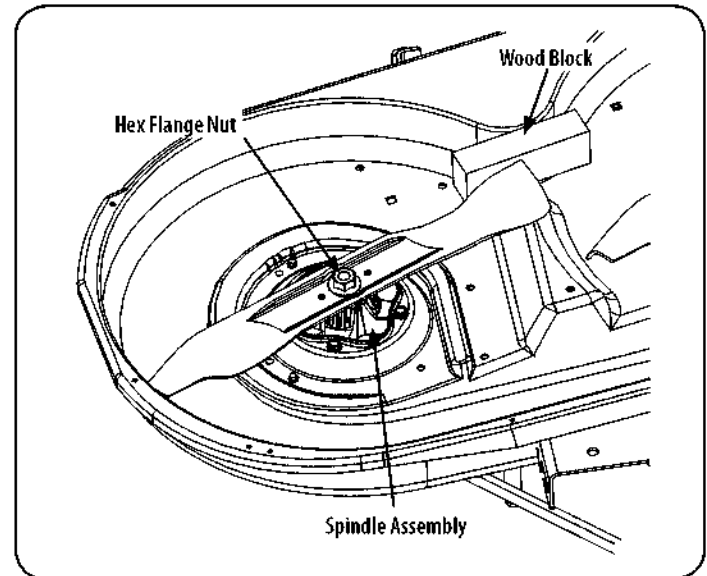

Figure 37
2. Use a $\frac{15}{16}$ " wrench to hold the hex nut on top of the spindle assembly when loosening the hex nut securing the blade. A block of wood may be placed between the deck housing and the cutting edge of the blade to help in breaking loose the hex nut securing the blade. See Figure 37.